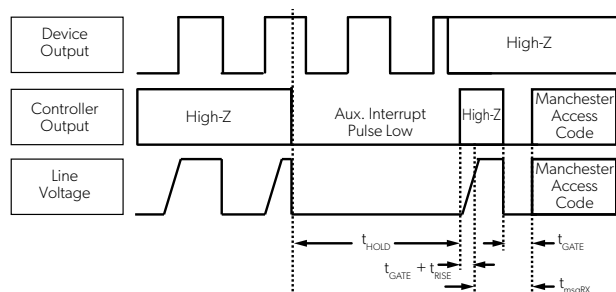

Figure 54: Entering Manchester from PWM
1. If the IC is configured for PWM, the output line must be held low for at least 2 PWM periods prior to sending the Manchester entry code (as shown in Figure 54)
To initialize communication using the Manchester Auxiliary command when the A17803 is configured with PWM output, the auxiliary interrupt pulse can be applied at any time. The auxiliary pulse must have a minimum width of t_{HOLD} , after which the pulse is released for t_{GATE} plus the rise time to allow the line to pull high and the device to register a rising edge. After this, the controller must pull low for t_{GATE} before beginning to send the Manchester access code. If the device does not recognize the first rising edge of the Manchester access code before t_{msgRX} , after the hold time, a timeout of the device occurs, Manchester initialization aborts, and PWM functionality returns. The Manchester Auxiliary command for PWM output is shown in Figure 54.